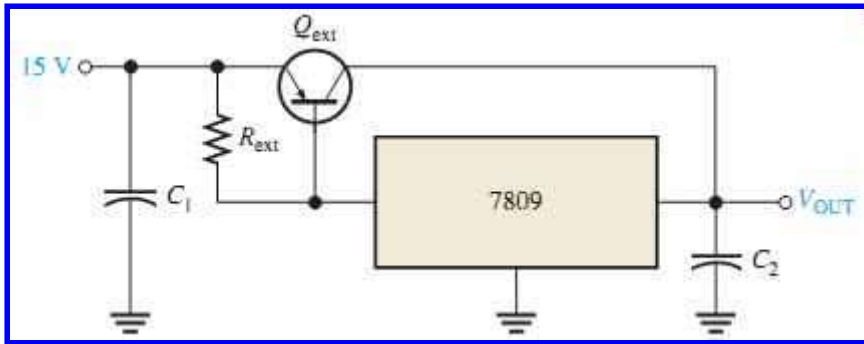

FIG. 53
25. In the regulator circuit of FIG. 53, determine R_{ext} if the maximum internal regulator current is to be 250 mA.
26. Using a 7812 voltage regulator and a 10 OHM load in FIG. 53, how much power will the external pass transistor have to dissipate? The maximum internal regulator current is set at 500 mA by R_{ext} .
27. Show how to include current limiting in the circuit of FIG. 53. What should the value of the limiting resistor be if the external current is to be limited to 2A?